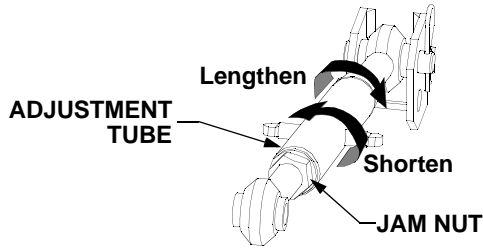

Figure 25
- The length of the upper hitch link is normally determined by the design of each implement. To adjust the upper hitch link, loosen the jam nut and turn the adjustment tube as shown in Figure 25. After the appropriate length is attained, tighten the jam nut. If correctly adjusted, the upper hitch link will be parallel or nearly parallel to the lower hitch links.